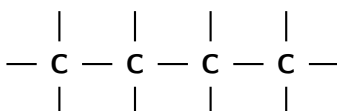
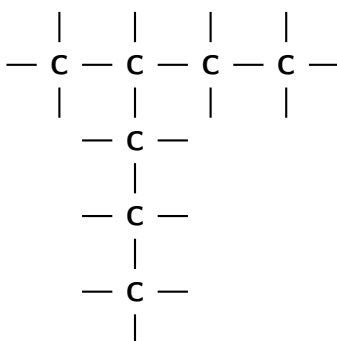

Figure 9.1: An unbranched carbon chain
Figure 9.2: A branched carbon chain
- Carbon has *four valence electrons* which means that each carbon atom can form bonds with four other atoms. Because of this, long *chain structures* can form. These chains can either be *unbranched* (figure 9.1) or *branched* (figure 9.2). Because of the number of bonds that carbon can form with other atoms, organic compounds can be very complex.